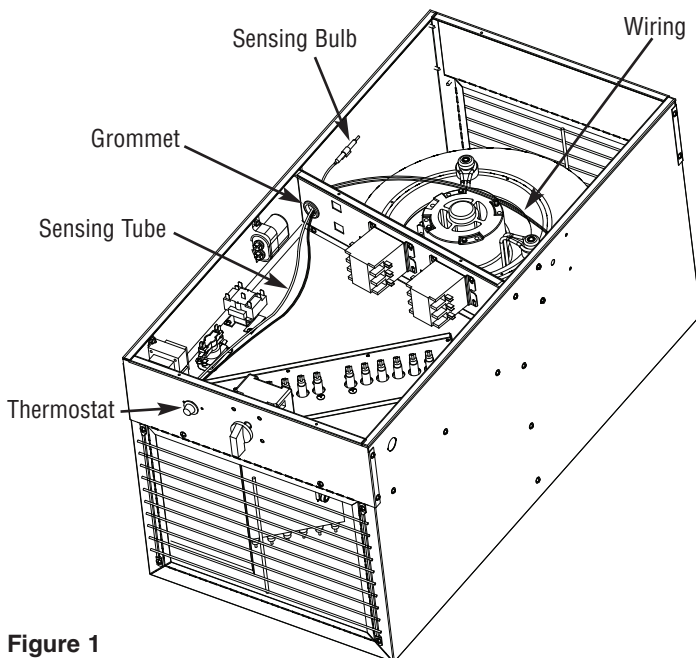

Figure 1
2. Carefully remove the 5/16" knock-out and the 2 screws on either side of it from the face of the heater. (See figure 1)
3. Position the thermostat so that the thermostat wiring exits towards the transformer side of the plenum heater (away from incoming power connection) and mount with the included #6-32x 1/4"L mounting screws from the kit. (See figure 1)
5. Cut a 1/4" long slit in the rubber grommet. (See figure 1)
6. Route thermostat sensing tube and wiring through rubber grommet as shown in Figure 1 using care to keep sensor tube away from all uninsulated connections in control box area. Also use care to not create sharp bends or kinks in the sensing tube.
7. Using included 'J' style cable clamp, mount sensing bulb to inside wall of the blower side of the plenum housing. (See figure 1)